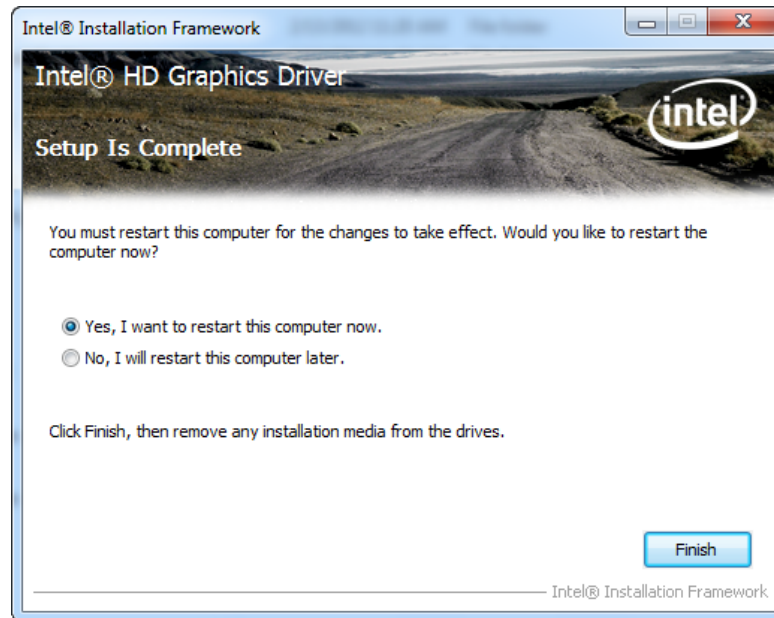

Figure 6-14: Graphics Driver Installation Finish Screen
Step 16: The **Finish Screen** in **Figure 6-14** appears.